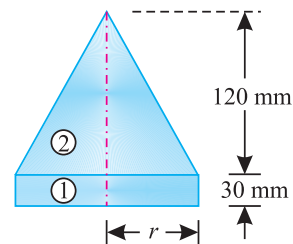

Fig. 6.17.
**Solution.** As the body is symmetrical about the vertical axis, therefore its centre of gravity will lie on this axis as shown in Fig. 6.17. Let  $r$  be the radius of the cylinder base in cm. Now let base of the cylinder be the axis of reference.